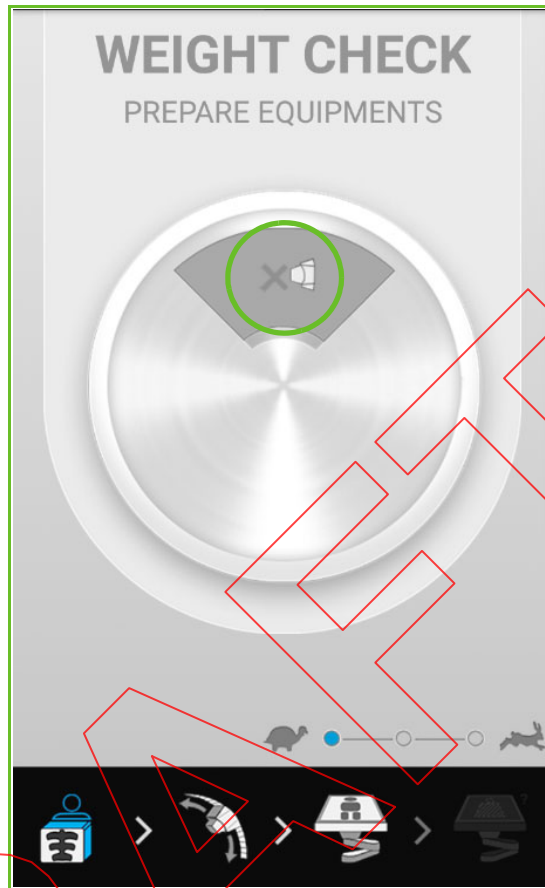

Figure 46-8. Automatic weight check - Retract imager
- a. Retract the imager by pressing the **Retract Imager** (  ) icon (Figure 46-8).